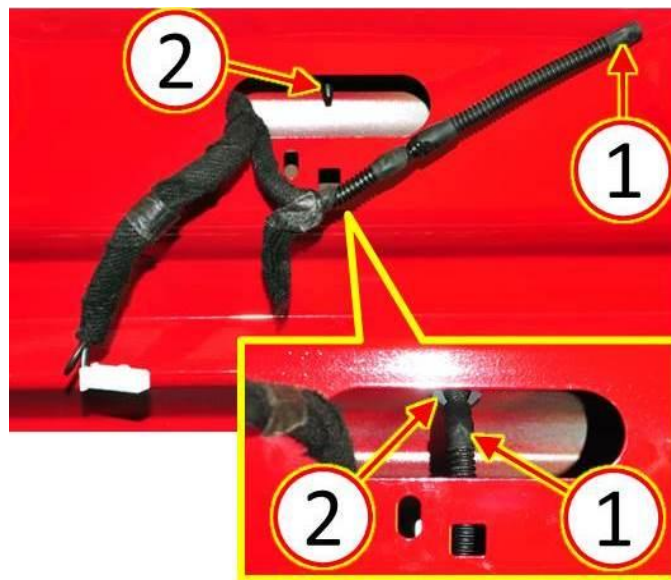

Fig. 5 Connect Check Valve To Washer Nozzle
7. Carefully position the check valve assembly (1) into the rear hatch without kinking the washer fluid hose, then connect the hose end of the check valve assembly (1) to the window washer nozzle (2) (Fig. 5).